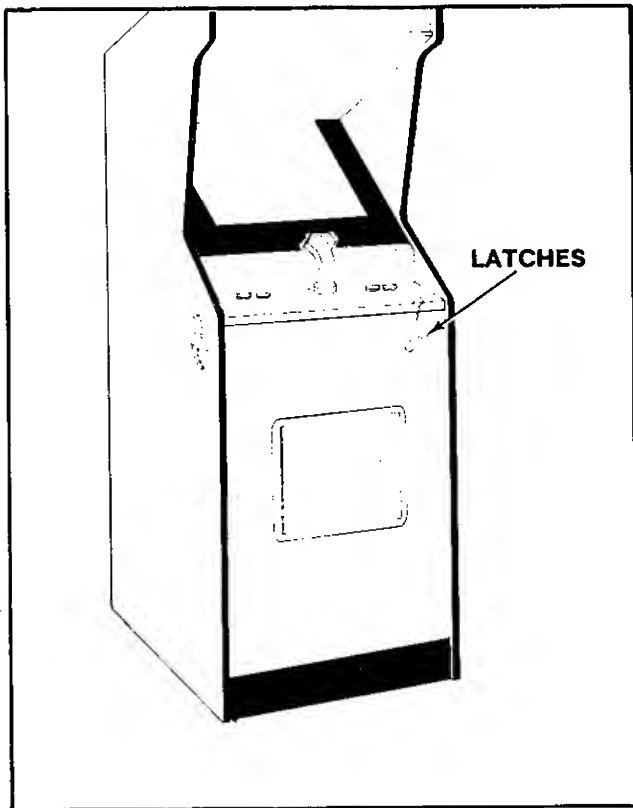

Figure 3-2 Opening the Control Panel
1. UPRIGHT MODEL: SEE FIGURE 3-2.